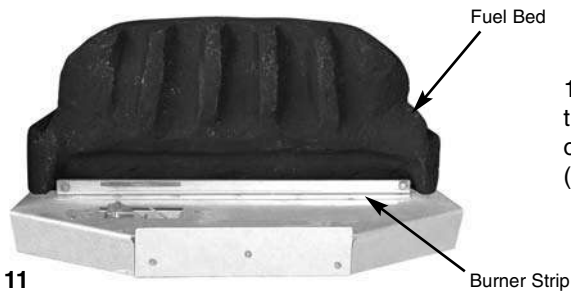

Fig. 11
1. Place the main fuel bed on to the middle section of the metal burner tray. It is important that the front edge of the fuel bed is located behind the burner strip (Fig. 11).